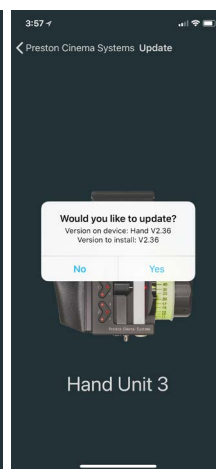

Fig. 2
- The Updater reports the current software version and asks if you want to replace it with the current version (*above fig 2*).